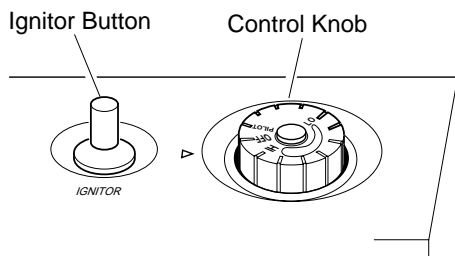

Figure 16 - Control Knob In The OFF Position
4. Wait five (5) minutes to clear out any gas. Then smell for gas, including near the floor. If you smell gas, **STOP!** Follow “B” in the safety information at the top of column 3, page 9. If you don’t smell gas, go to the next step.
5. Turn control knob counterclockwise to the PILOT position. Press in control knob for five (5) seconds (see Figure 16).